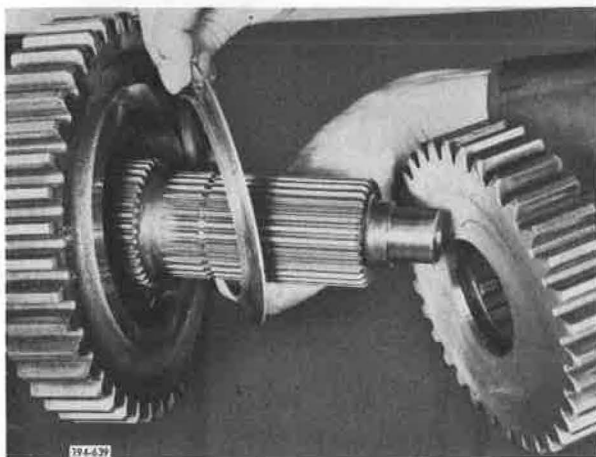

Figure 5-954. Installing Thrust Washer and Gear
15. Install third speed gear flanged thrust washer, and fourth speed gear. See **Figure 5-954**.